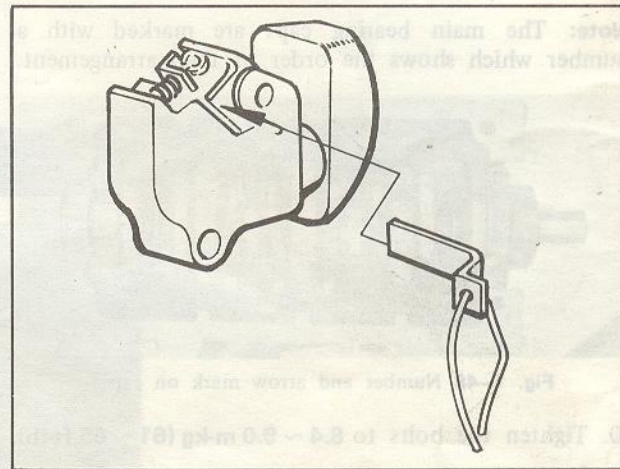

Fig. 1-55 Inserting tool in tensioner
1. With the snubber spring compressed fully, insert the tool in the tensioner release mechanism, as shown in Fig. 1-55.